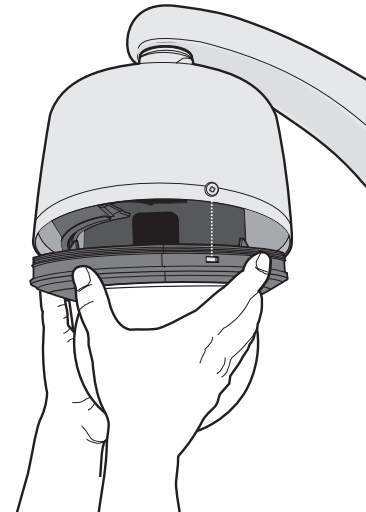

Figure 2. Installing the Lower Dome (Pendant Model Shown)
2. After the dome drive is installed, push the lower dome inside the back box. Tighten the two captive screws to secure the lower dome. Refer to Figure 2.